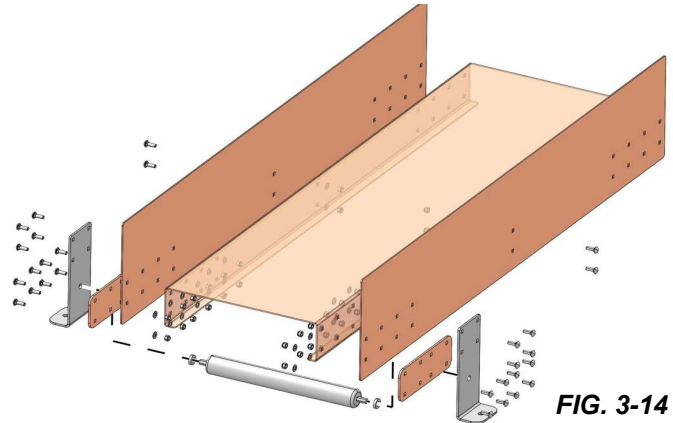

FIG. 3-14
1. Install the conveyor side panels, link plates, feet, and roller for the Middle section as shown in FIG. 3-14.